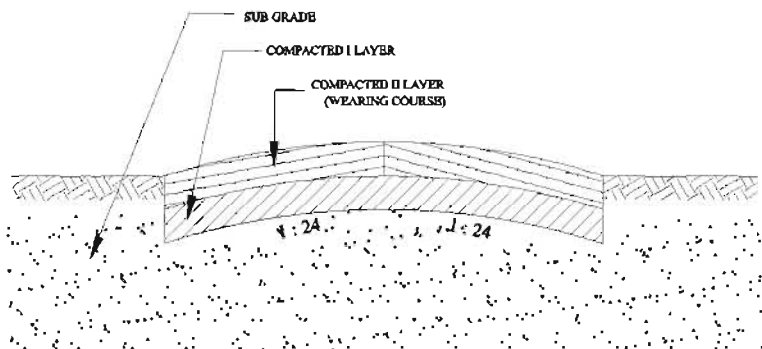

Fig. 8.9 CROSS SECTION OF EARTH ROAD
- 8) The compacted earth road is allowed to dry for a period of about 5 to 10 days before opening it for traffic (Fig 8.9).